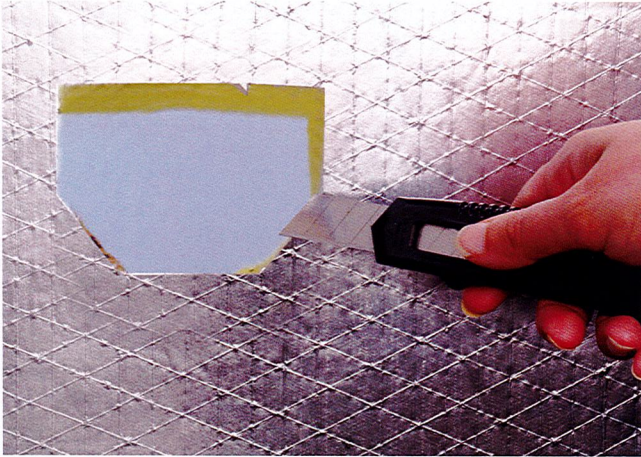

Figure 2
- Using a 4-1/2" hole saw, or the provided template, cut a hole into the plenum/duct box. Cutting into fiberboard is usually easier than metal, and can be done with a utility knife. Refer to **Figure 2**. Be sure to drill into the duct only. Do not penetrate into the mechanical areas of the HVAC system.